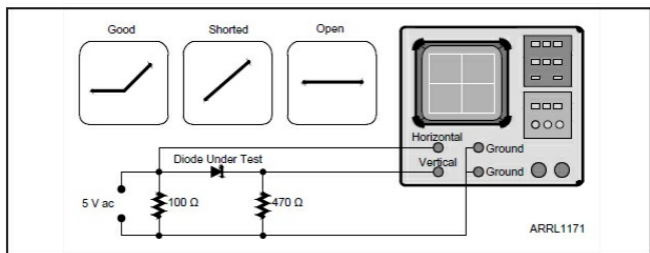

Figure 1.6 — The addition of a few components can turn a scope into a special-purpose test instrument.
**Figure 1.6** shows another very common use for oscilloscopes. With a few more components you can test diodes, capacitors, resistors, and transistors. In Chapter 7 we will discuss this use and others in more detail. In Figure 1.6, the component being tested is a standard diode — perhaps a power rectifier. By picking the correct components and oscilloscope settings, a V-I (voltage vs current) curve appears on the scope display. If the diode is okay, the V-I curve will look like the left-hand drawing, if shorted, the center drawing, and if open the right-hand drawing.